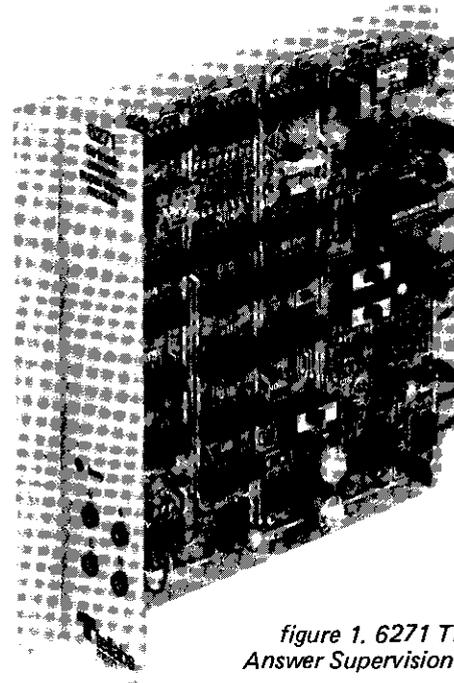

figure 1. 6271 Tie Trunk Answer Supervision Module
1.01 The Tellabs 6271 Tie Trunk Answer Supervision Module (figure 1) provides false delayed answer-supervision indications for PBX trunk circuits that cannot return answer supervision. This module monitors the local trunk's E lead and operates its own M1-lead relay in response to valid state changes on the trunk's E lead. The 6271 can be used at one or both ends of a PBX tie-trunk circuit.